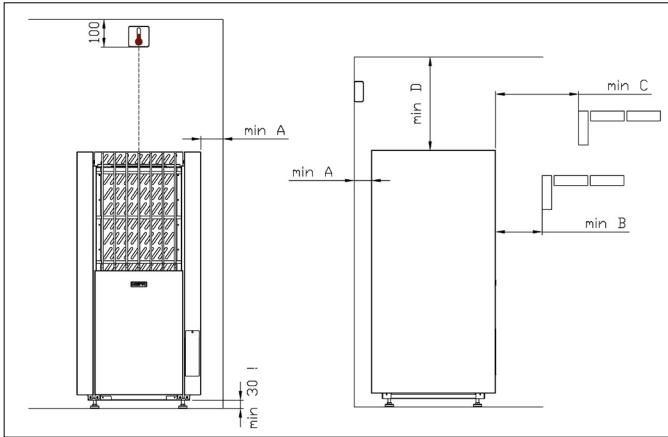

Figure 1. Safety distances for stoves
\*\*) See figure 1
- Observe the safety distances (Fig. 1) when installing the stove.